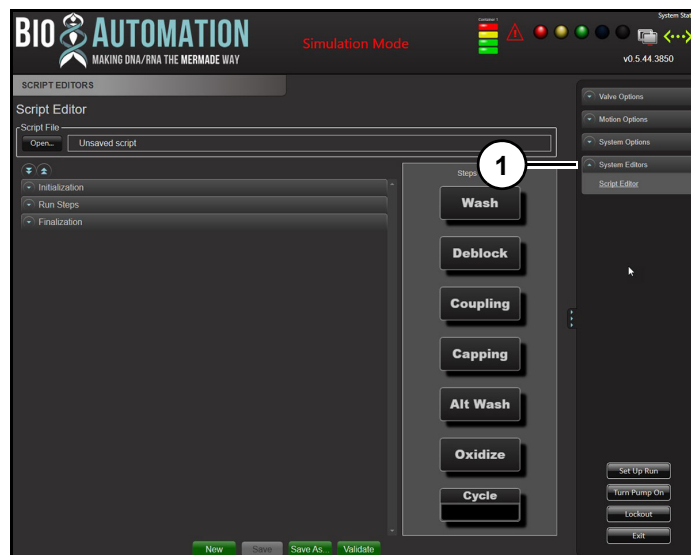

Figure 64
System Editor (1) (Figure 64) allows user to modify and create script files.